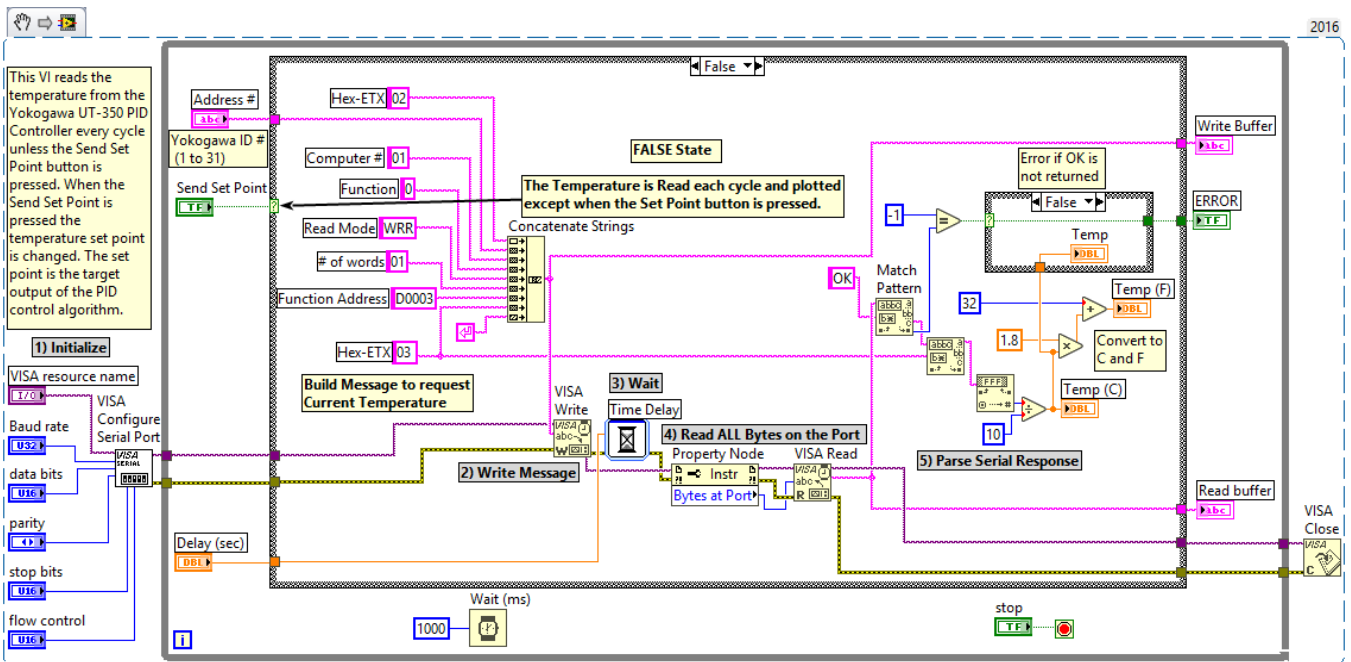
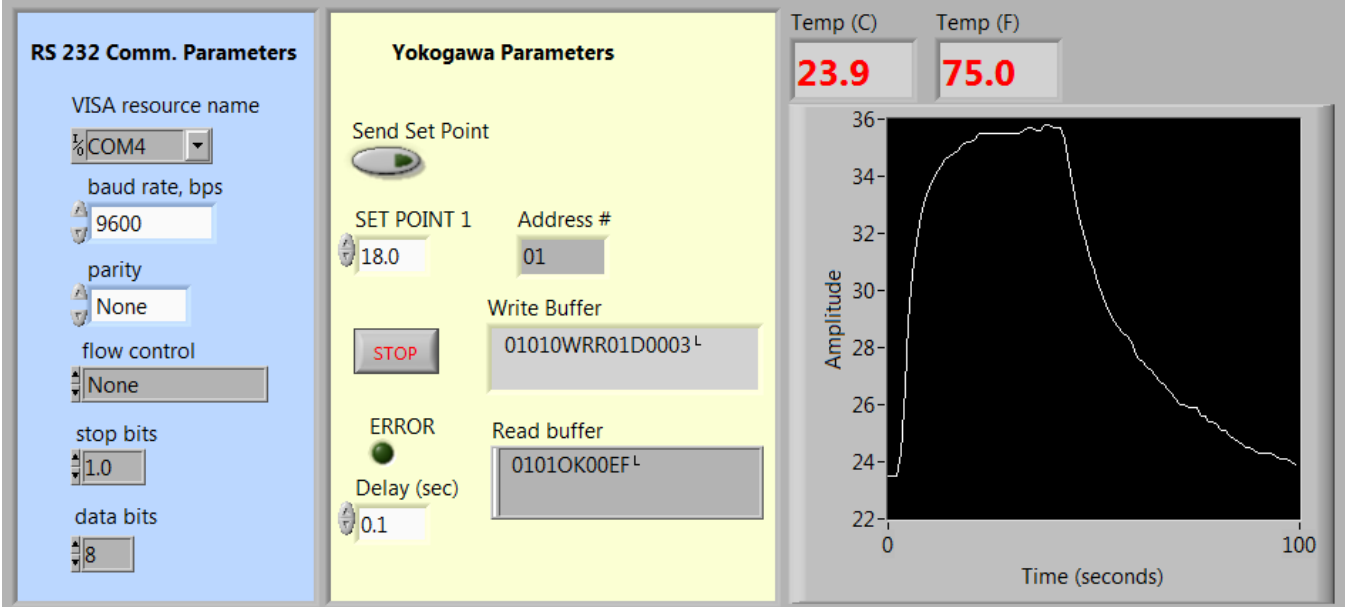

Figure 7.14: Snippet of Yokogawa UT-350 Controller program to read the Thermocouple value.
Figure 7.15: Front Panel of Yokogawa UT-350 Controller reading the Thermocouple value.
- 4) Find the commands needed to read the display and write out the set point to the Yokogawa and determine the message structure of the returned message to determine how to parse it and convert it from a string to a number so it can be plotted. The messaging structure for this device is incredibly difficult and took a lot of trial and error before finally getting it to work. The message structure of the read and write messages are shown in the Block Diagram snippets in Figures 7.14 and 7.16. The returned message for each case is shown in Figures 7.15 and 7.17.
Like in the previous two examples, a case structure is used, but in this program there is no idle state. When the Send Set Point button (i.e. momentary switch) is False the program continuously reads the temperature value on the UT-350 display every cycle. Each cycle is hard-coded to 1 second by wiring 1000 ms into the Wait (ms) block. The slow sample rate is acceptable in this cause because speed is not important for this temperature monitoring application. If the Send Set Point button is pressed, the True case is selected (Shown in Figures 7.15 and 7.17) and the temperature is not read, but instead the Set Point is transmitted to the Yokogawa. Since it is a momentary switch (i.e. It has Latch Mechanical Action in LabVIEW) it goes right back to False after one cycle. This program was much more difficult to implement than the Fluke 45 due to the complicated message format.